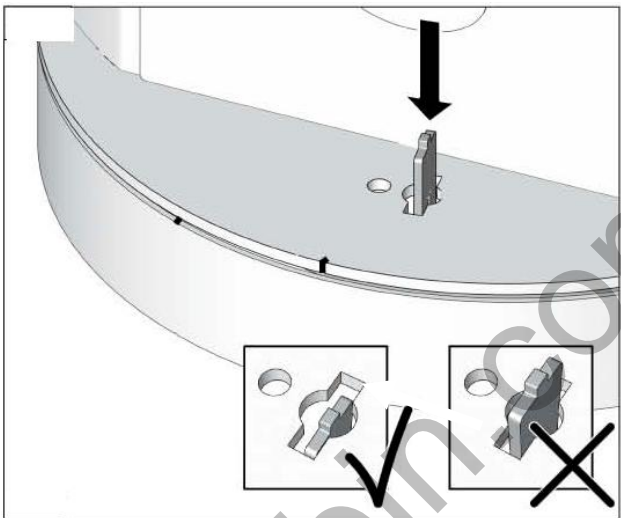

Figure 5: Insert First Rotation Locking Stopper
4. Rotate the stove body very slightly. Slide the Locking Stopper down through the hole on the deck of the control knob. Be sure the Stopper slides all the way into place over the matching groove (see fig. 5).